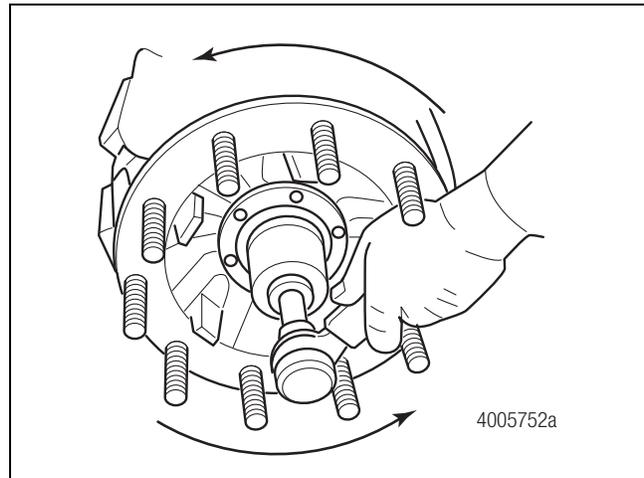

Figure 5.7
1. Install the inner spindle nut. Tighten it to 300 lb-ft (400 N•m). Do not back off the spindle nut. Figure 5.7.